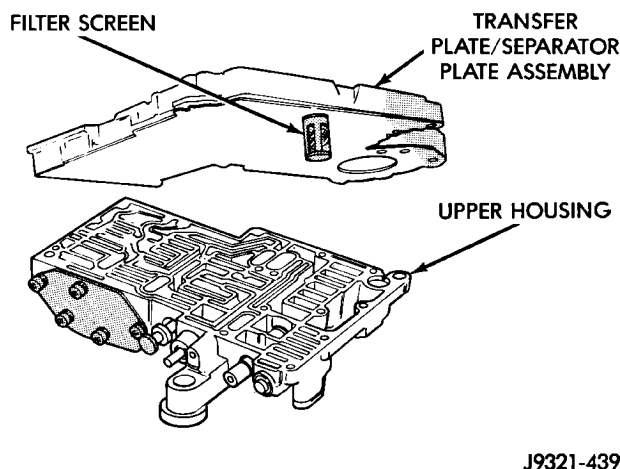

Fig. 80 Installing Transfer Plate On Upper Housing
(2) Position assembled transfer plate and upper housing separator plate on upper housing (Fig. 80). Be sure filter screen is seated in proper housing recess.